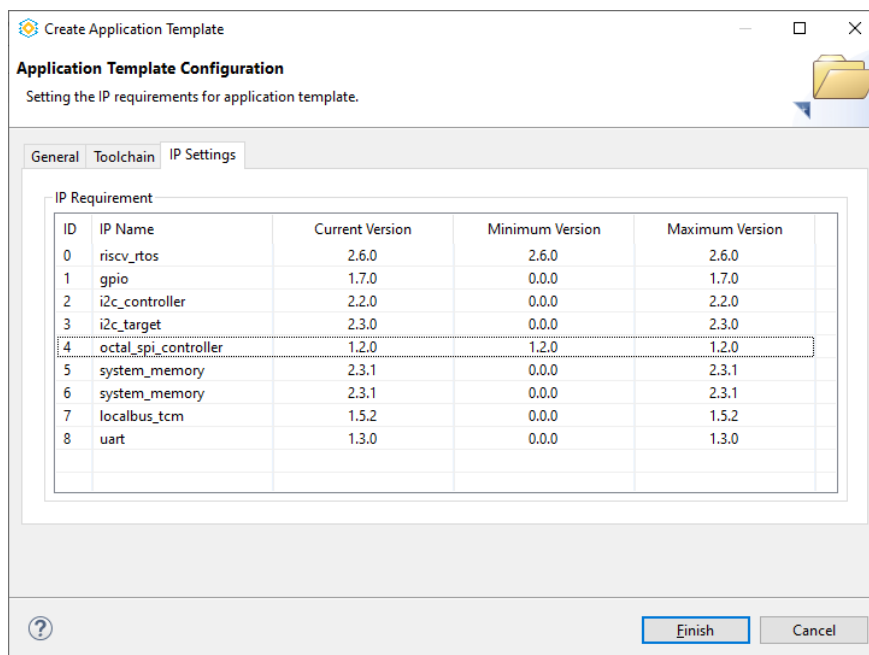

Figure 3.8. Create Application Template – IP Settings
- Under the IP Settings tab (Figure 3.8), Propel SDK generates a filter according to your settings. This means if you create a C/C++ project using this C/C++ template, the corresponding SoC project should include the versions of IPs shown in the IP Settings tab. Be careful when modifying the IP-related settings under this tab. If these settings are not set properly, you might encounter errors when using these templates on other versions of Lattice Propel SDK.